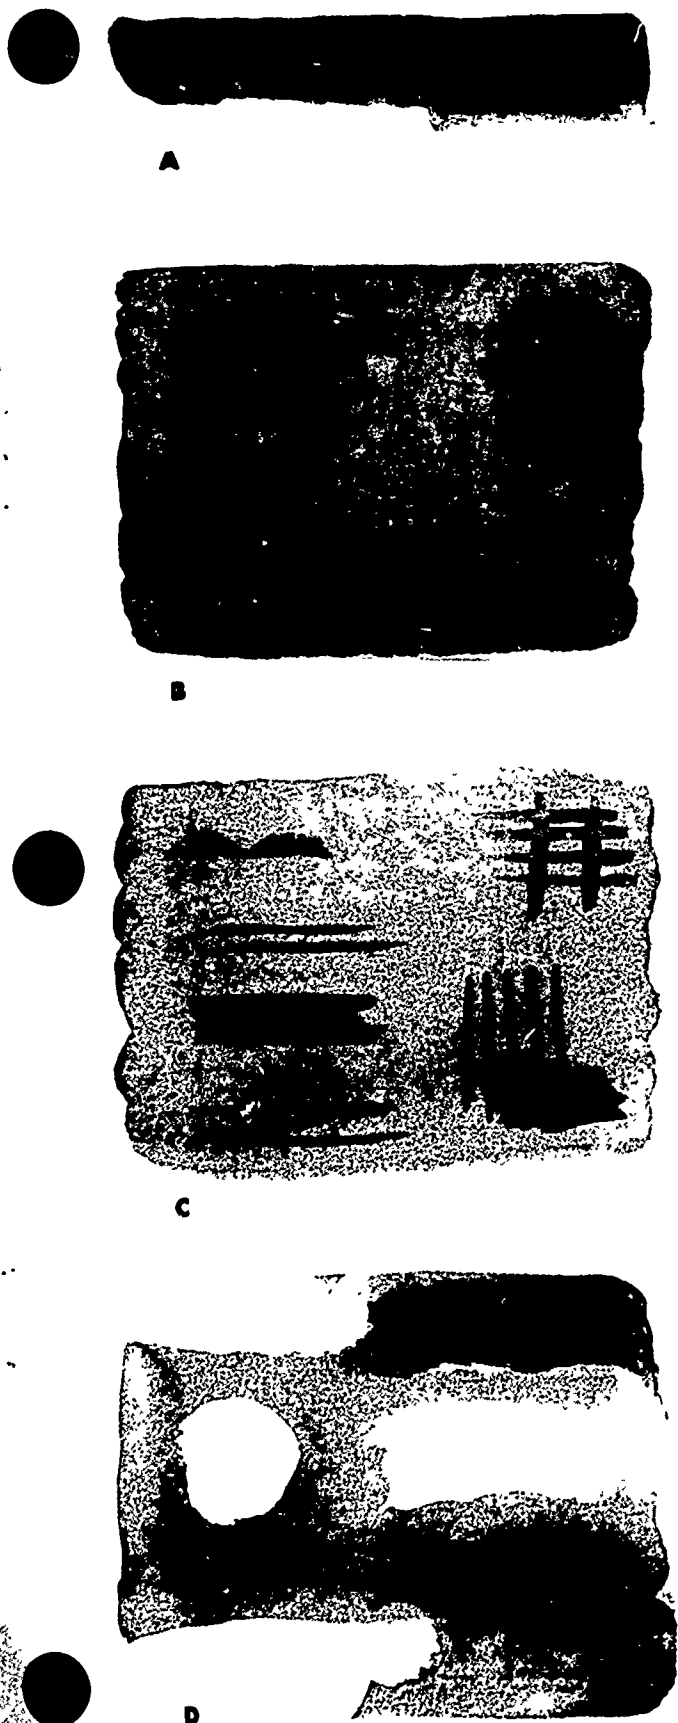

Figure 1-25. Special effects of transparent wash.
**Special techniques.** Figure 1-25 shows some of the special effects of different wash techniques. The top example shows the technique of softening the edges of a wash. This can be done either on a wash applied on the
When the wash must terminate in a very sharp straightedge, masking tape is laid along the edge and the wash is brushed right up to it. Be sure that the wash does not collect along the tape; do not remove the tape until both the wash and tape are dry. A liquid masking medium or rubber cement can also be used as a mask over the area where you do not want wash. The results shown in example D of figure 1-25 were achieved in this manner. The advantage of using a mask is that the wash